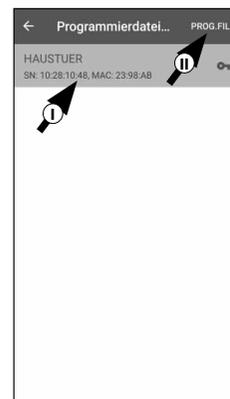

Fig. 72
- ⑥ Select the cylinder for which you have set up changes (I) (Fig. 72).
- ⑦ Then tap on "PROG.FILE" (II) at the top right (Fig. 72).